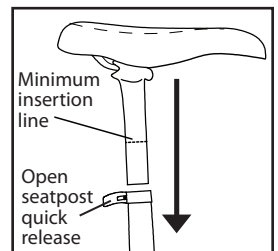

Fig. 10: Insert seatpost beyond minimum line.
A seatpost that is too high can cause damage to your bicycle or decrease your control and cause you to fall. Make sure the minimum-insertion line is in the frame (Fig. 10).
2. Insert the seatpost into the seat tube to a sufficient depth so that the minimum insertion line is no longer showing (Fig. 10).